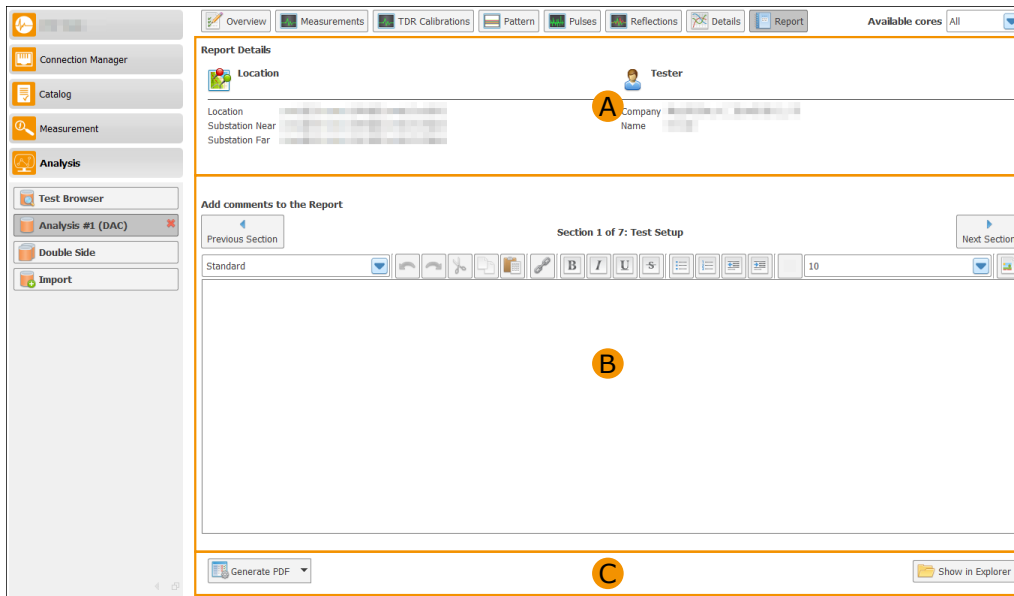

Figure 8.24: The automatic report generation
After all test have been finished, the measurement analysis can be composed into a report. The report can be created as Word (cf. Section Generate Word report) or PDF file (cf. Section Generate PDF report). Figure 8.24 shows the report view. The report view is separated into three parts. In (A) the report details of the measurement are depicted. The center area (B) allows to add notes which should be contained inside the report. To add the notes a simple text editor is available. With the buttons *Previous Section* and *Next Section* it is possible to switch between the different parts inside the report. In Table 8.2 all available sections of the report are described. The bottom area (C) can be used to select the report type and opening the finished reports.